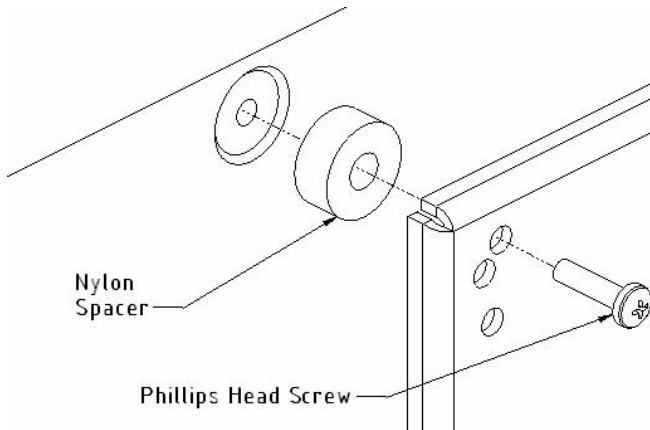
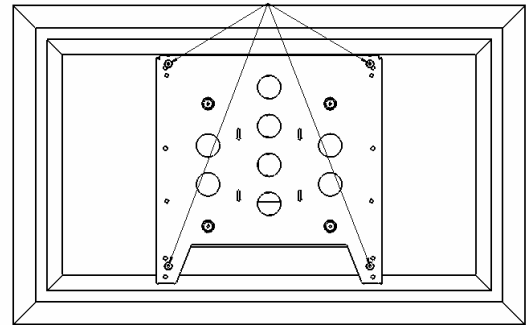

Figure 6
Figure 7
4. **Bracket Installation:** Attach bracket to back of display using the phillips head screws and nylon spacers (see Figure 6 & Figure 7). Use the screw and spacer combination that works best for your screen. Do not over tighten screws.